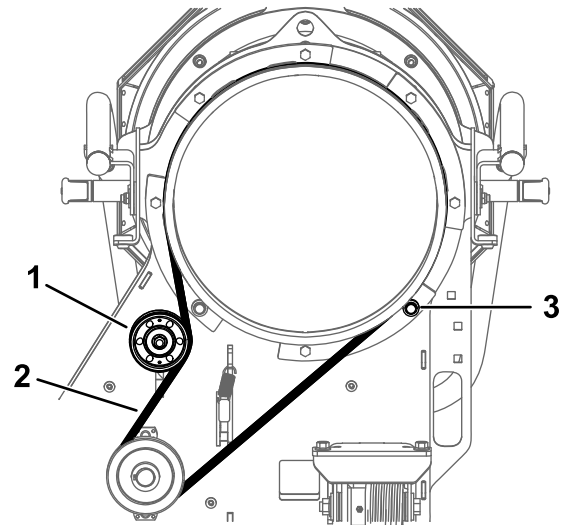

**Figure 35**
3. Remove the belt cover (Figure 35).